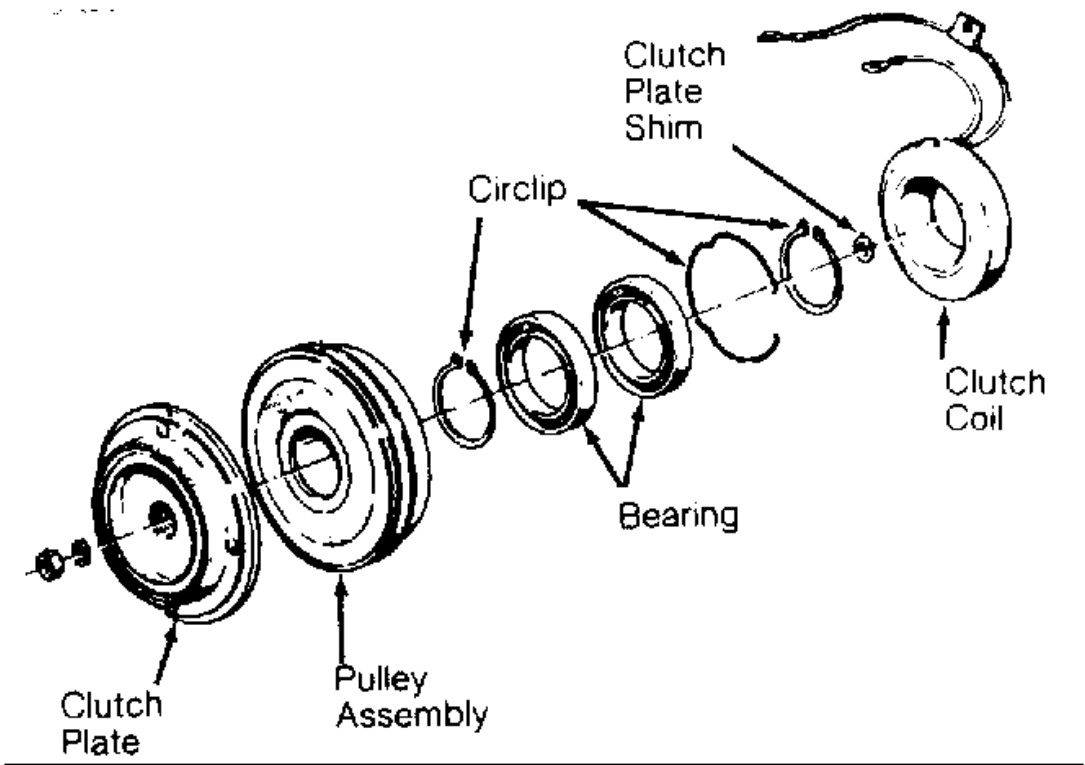

Fig. 2: Bosch 6-Cylinder Compressor Clutch
- 2. Using a feeler gauge, check clutch plate-to-pulley clearance. Clearance should be .028-.051" (.7-1.3 mm). If clearance is not correct, remove clutch plate and replace clutch plate shim. See Fig. 2 .